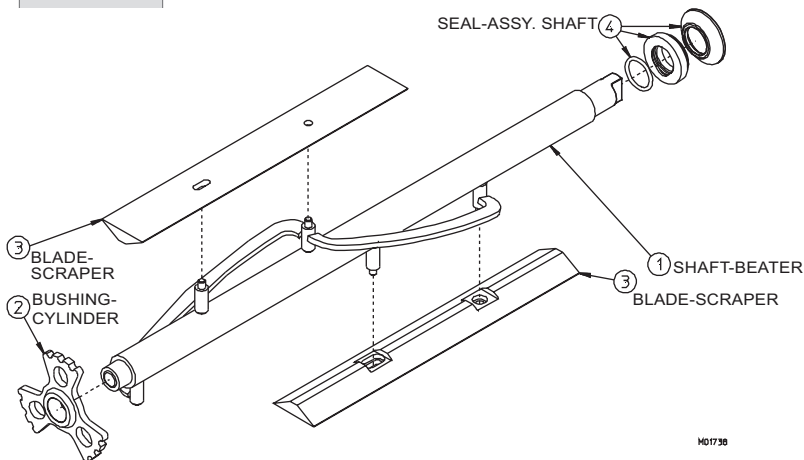

Figure 9-2 Beater Shaft Assemblies
3. Install the shaft seals over the rear of the beater shafts. If using the three piece shaft seal the bell-shaped portion will be facing the rear of the freezer (see figure 9-2). Remove excess lubricant from the drive end of the beater shaft.